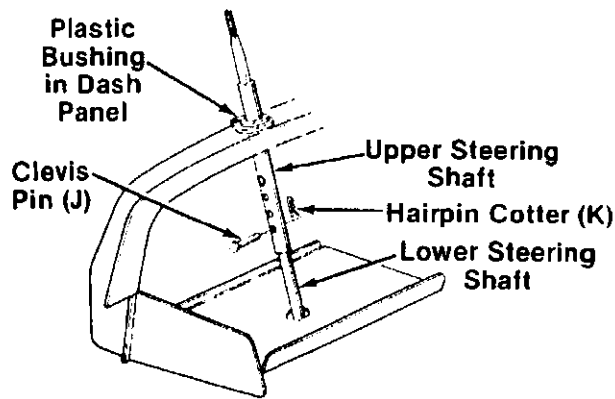

FIGURE 10.—Model 698 Shown
1. For shipping purposes, the upper steering shaft is pushed all the way down over the lower steering shaft. Pull the upper steering shaft up. The four holes in the shaft provide four steering wheel heights. Select desired hole and secure with clevis pin (J) and hairpin cotter (K). See figure 10.